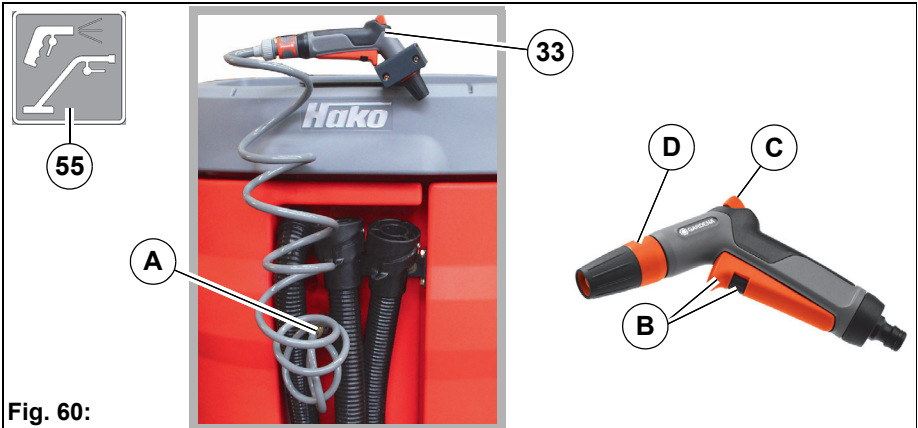

**Fig. 59:**
The manual suction tool **Fig. 59-A** is used for manually cleaning difficult-to-reach points.
1. Reconnect the suction hose in the park position **Fig. 59-B**.
2. Insert the hose of the tool into the opening of the vacuum system **Fig. 59-C**.